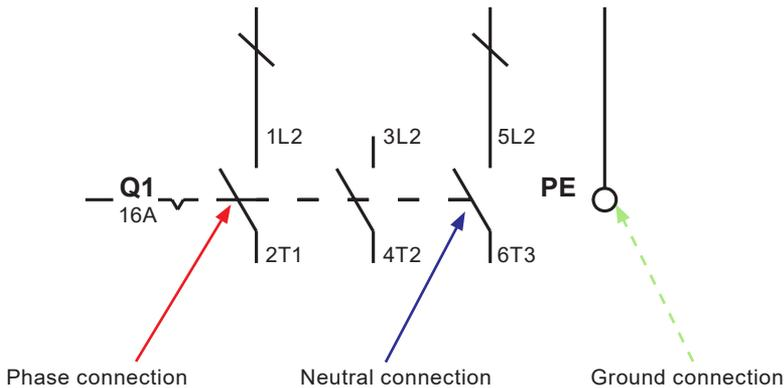

Fig. 2
Mains supply is directly connected to the primary side of the incoming control panel isolator (shown with the IP2X cover removed) and main ground terminal as shown in Figure 2.
- Check that all of the electrical connections are secure and as per the wiring diagram (Section 3.3, Figure 2).